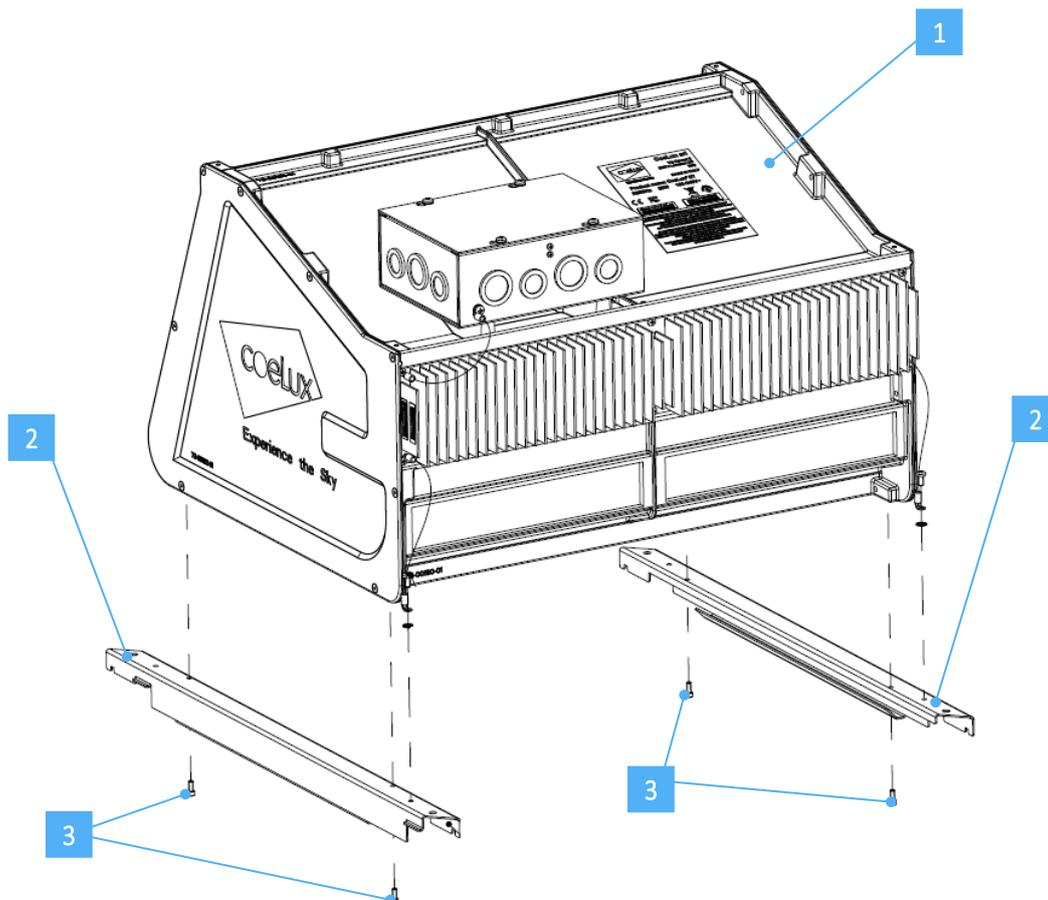
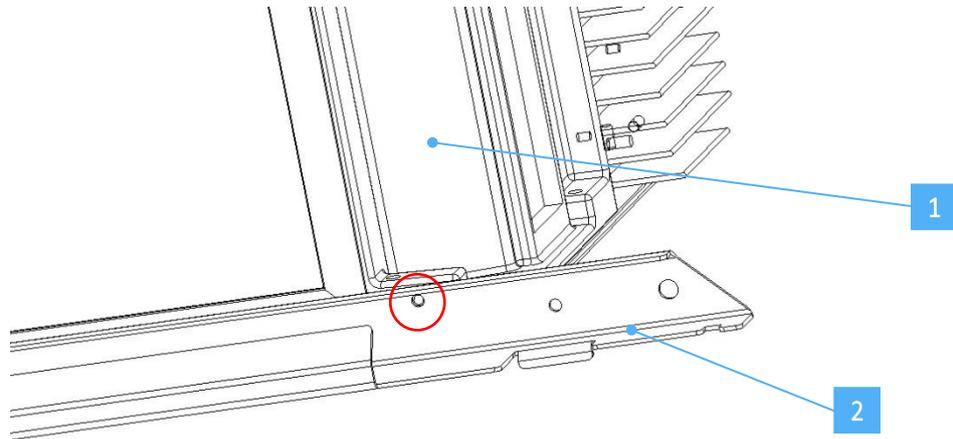

Fig. 3 *Assembly of support bars.*
Fig. 4 *Detail of the support bars [2] for CoeLux ST (seen from below). Red circle: hole to fasten bars to the main case [1].*
- B. Use the M4 screws supplied [3] and the holes indicated in Figure 4 to assemble the support bars [2] on the main case [1] (Figure 3).